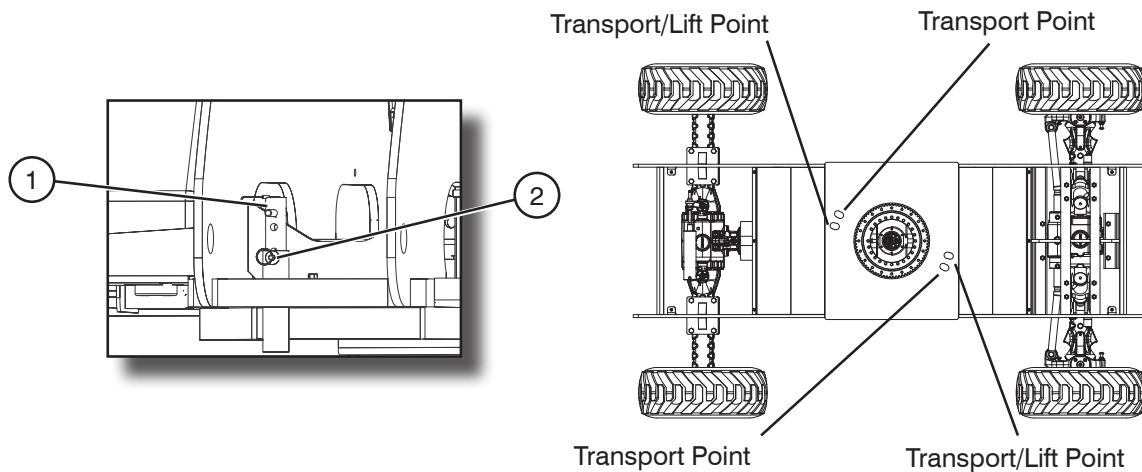

Figure 2-20. Turret Transportation Lock & Locking Points
1. Ensure that turret is positioned so that turret transportation lock (item 1 - Figure 2-20) is aligned into one of four turret locking points.
2. Pull out turret lock retaining pin (item 2 - Figure 2-20). Lower turret lock into locked position and reinsert turret lock retaining pin.
1. Place boom in stowed position centered between drive wheels. Lock turret using turret transportation locking pin (refer to Section 2.12-2) into one of transport/lift points only (refer to Figure 2-20).